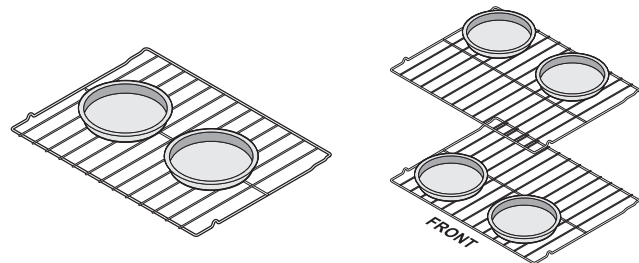

Figure 11: Baking layer cakes with one or two oven racks
- When baking using two oven racks, position cookware to allow at least 2 inches (5 cm) of space between cookware for proper air circulation and position pans as shown in Figure 11.